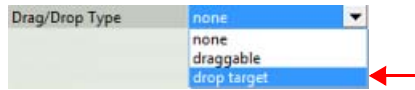

FIG. 33 TPDesign5 General Properties - Drag/Drop Type set to "drop target"
4. Set each button's *Drag/Drop Type* (General) property to **drop target** (FIG. 33):